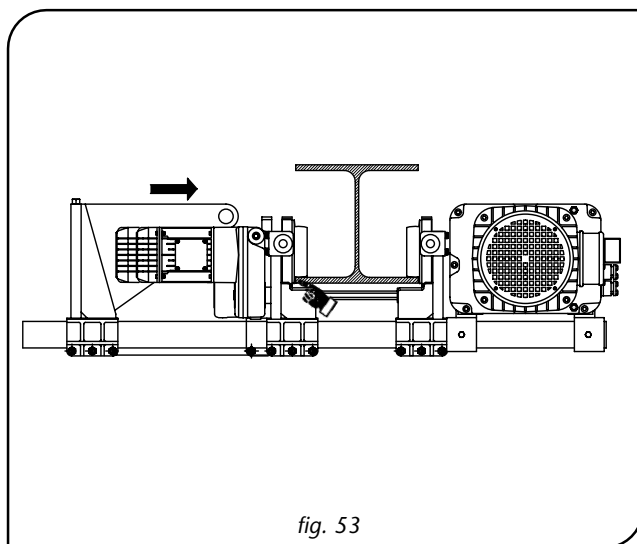

fig. 53
11. Operating from the scaffold at a height, let the **plates on the balance weight side** slide on the bars to draw the edges of the wheels level to the edge of the girder (fig. 53).